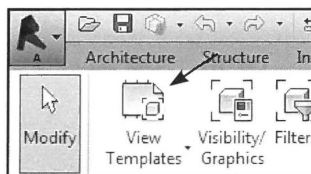

Fig. 13.05. *View - Visibility/Graphics*.
- Vælg *View - Visibility/Graphics* (Fig. 13.05).